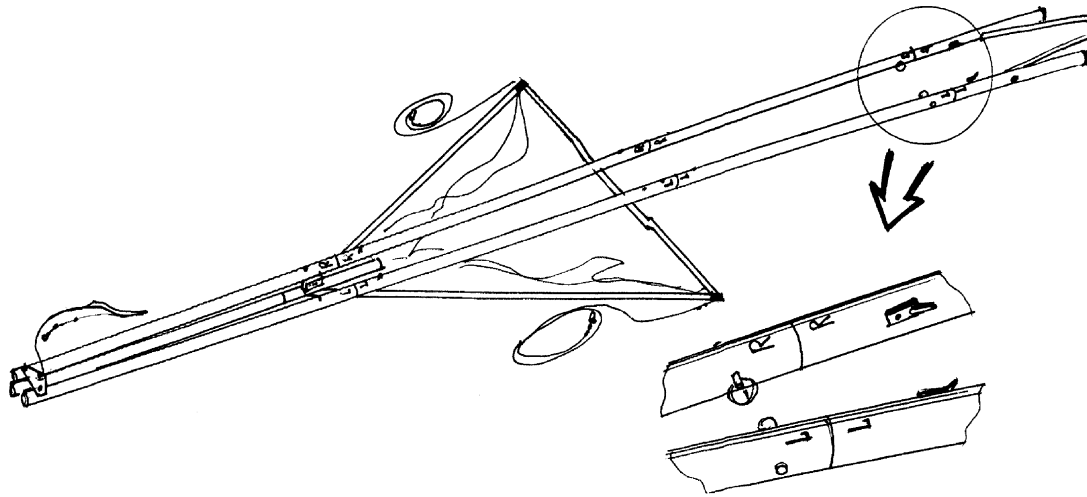

Fig.5
2.1.6. Turn the front part of the frame with uprights so that the channel which secures the kingpost is on top. Attach the N2, N3 and N4 leading edge tubes using the telescopic connectors which are fixed with button springs. While performing the set up procedure of the leading edge keep to the following marking: L-left, R-right (Fig.5). Tubes N4 fix with the pin secured by the safety rings. Washout tips must be directed as shown in Fig.5a. Check that the tube junction in the telescopic connectors are secure.